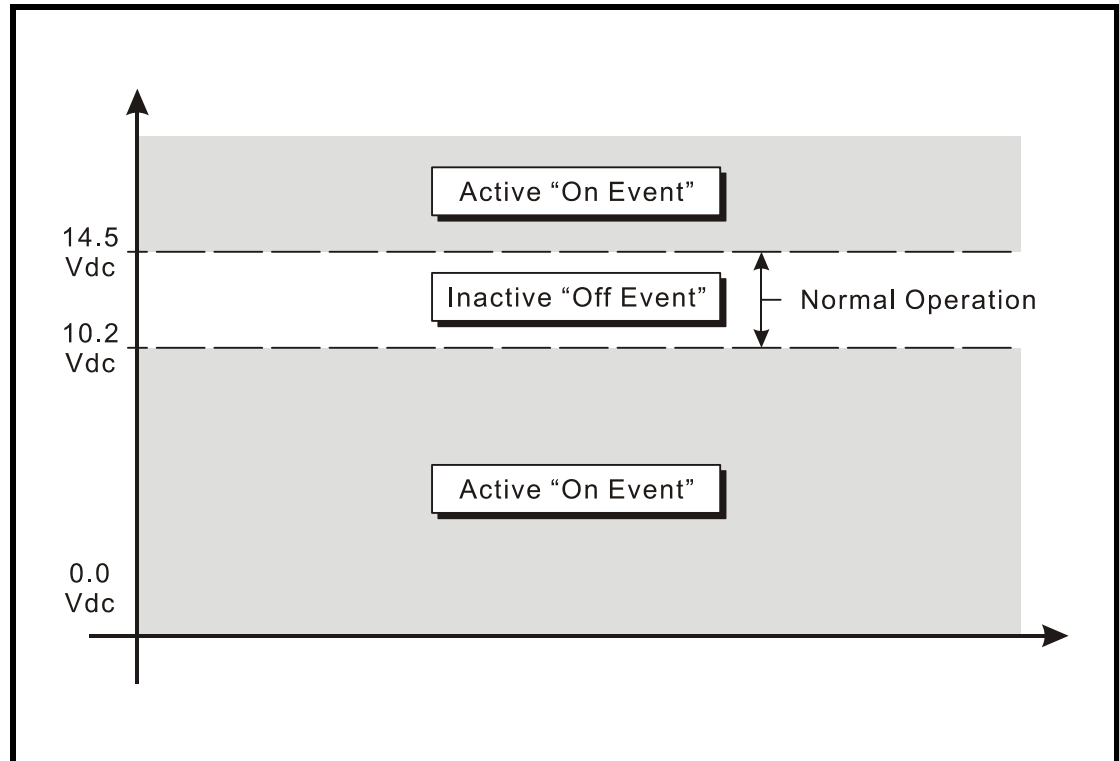

Figure 4 - Analog Input Operating Regions vs. Limit Values
Figure 4 on page 25 illustrates the relationship of the Low and High Limit Values to the Analog Input state. Each region defines the type of Event Record that is created by transitions of the
- **On:** The Digital Input voltage is in the range from 5 to 36 Vdc. The Analog Input level is outside the acceptable range as defined by the region between the Limit Values (refer to Figure 4 on page 25). The Virtual Input evaluates to a true logic state. The Timer Input has reported a timed interval that is either too fast or too slow as compared to its assigned Low and High Limit Values, respectively (refer to the section entitled “Timer Inputs (W)” on page 25).